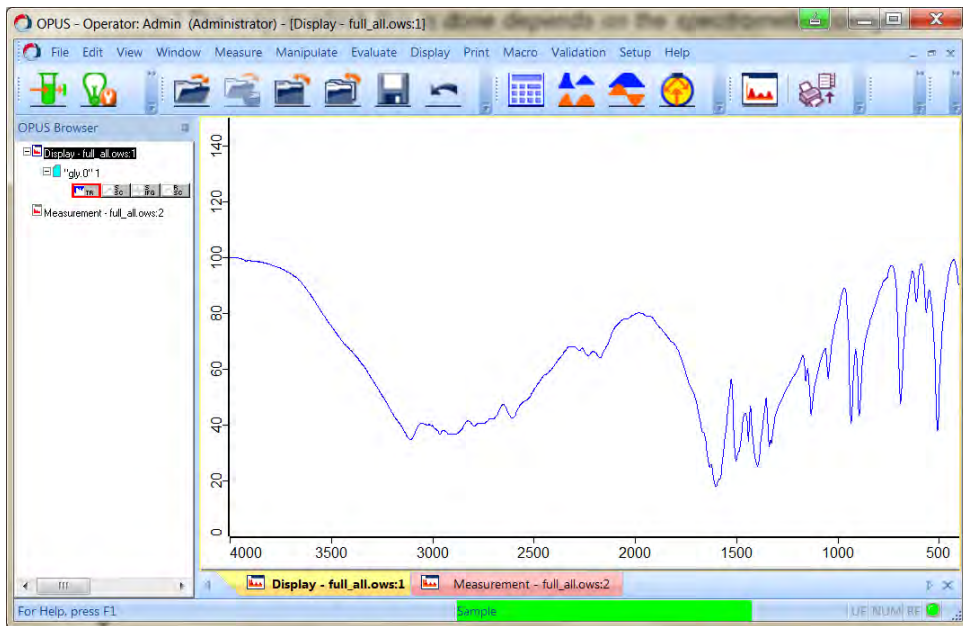

Figure 4.7: Measured sample spectrum displayed in the spectrum window
- *The 'Measurement' dialog closes and the spectrum window opens. The status bar below the spectrum window indicates the progress of the sample measurement. The sample measurement has finished if the measured spectrum is displayed in the spectrum window (figure 4.7).*